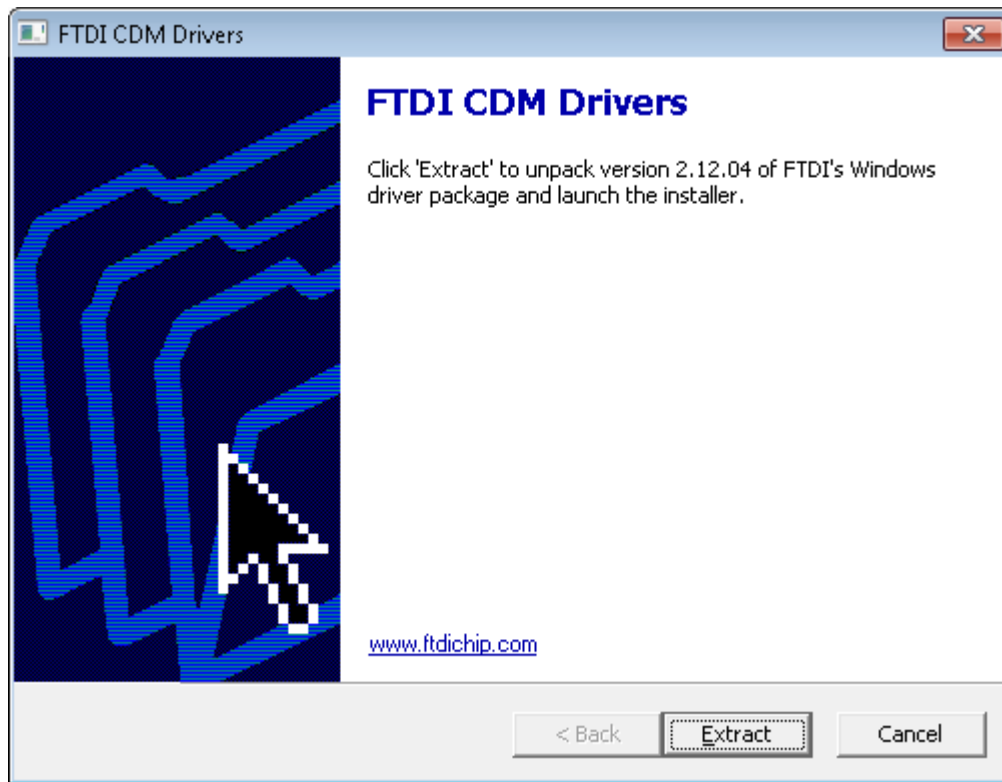

Figure 15. FTDI Installation Initialization
14. After DRV8821/DRV8823 Installation, FTDI Installation begins. A screen as shown in Figure 15 appears, click **Extract** to proceed.